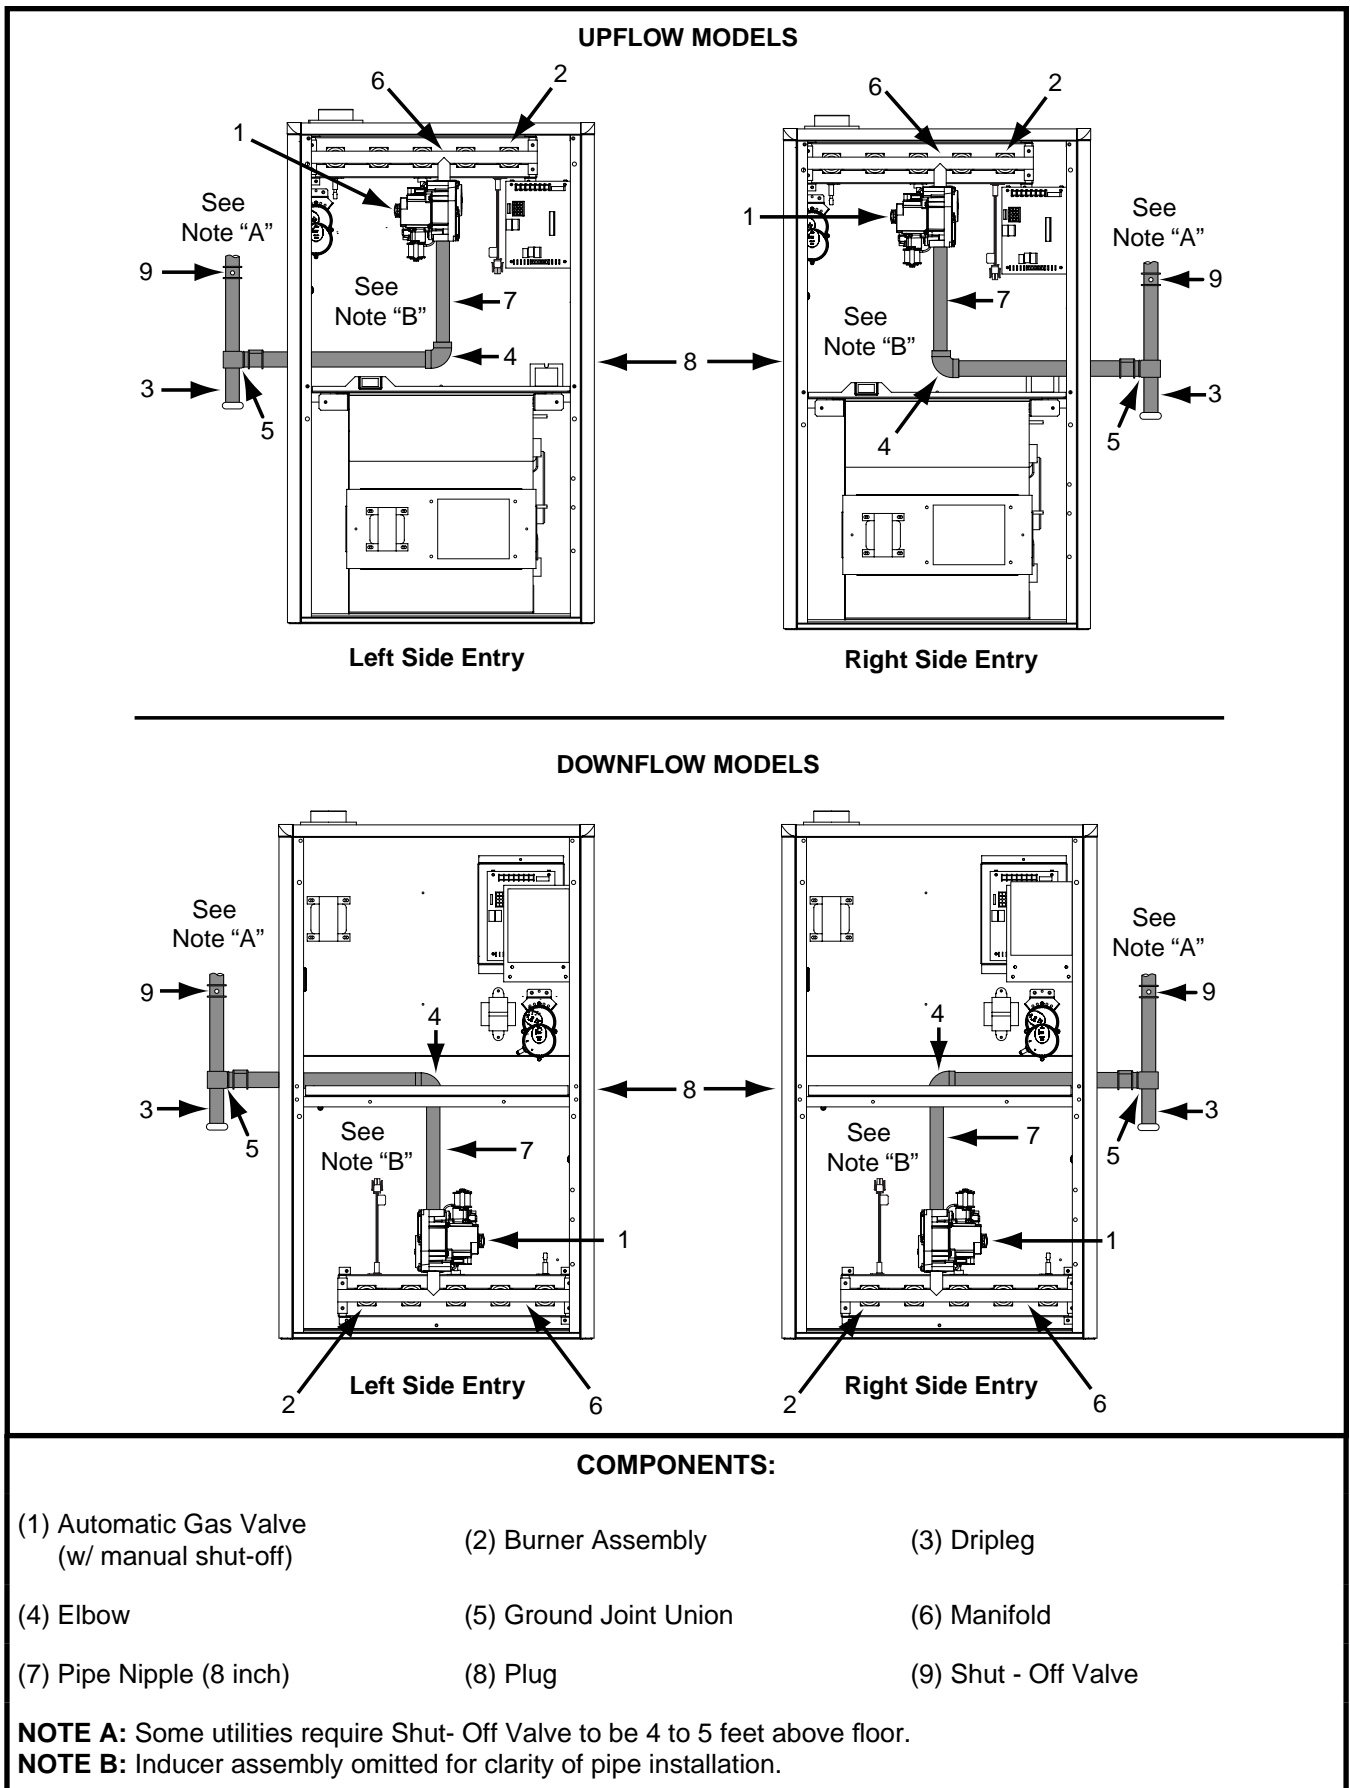

Figure 20. Typical Gas Connections
- Some local regulations require the installation of a manual main shut-off valve and ground joint union external to the furnace. The shut-off valve should be readily accessible for service and/or emergency use. Consult the local utility or gas supplier for additional requirements regarding placement of the manual main gas shut-off. See Figure 20 (page 22).
- A drip leg should be installed in the vertical pipe run to the unit. See Figure 20.
The furnace may be installed for either left or right side gas entry. When connecting the gas supply, provide clearance between the gas supply line and the entry hole in the furnace casing to avoid unwanted noise and/or damage to the furnace. Typical gas hookups are shown in Figure 20.